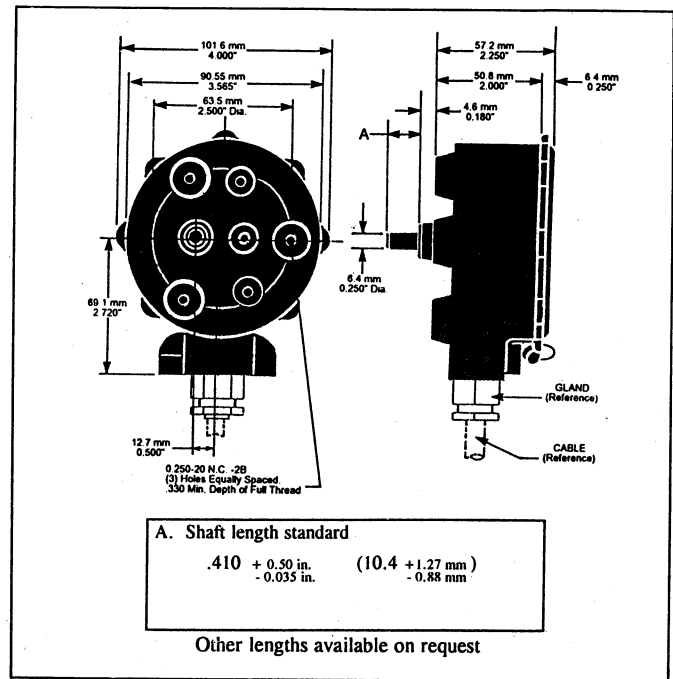

Figure 3. Mounting Dimensions.
2. Three equally spaced holes, 0.250-20 NC-2B, on the back of the case are provided for mounting (see Figure 3). Brackets and mounting arrangements must be sufficient to maintain alignment and minimize side load on shaft bearings.